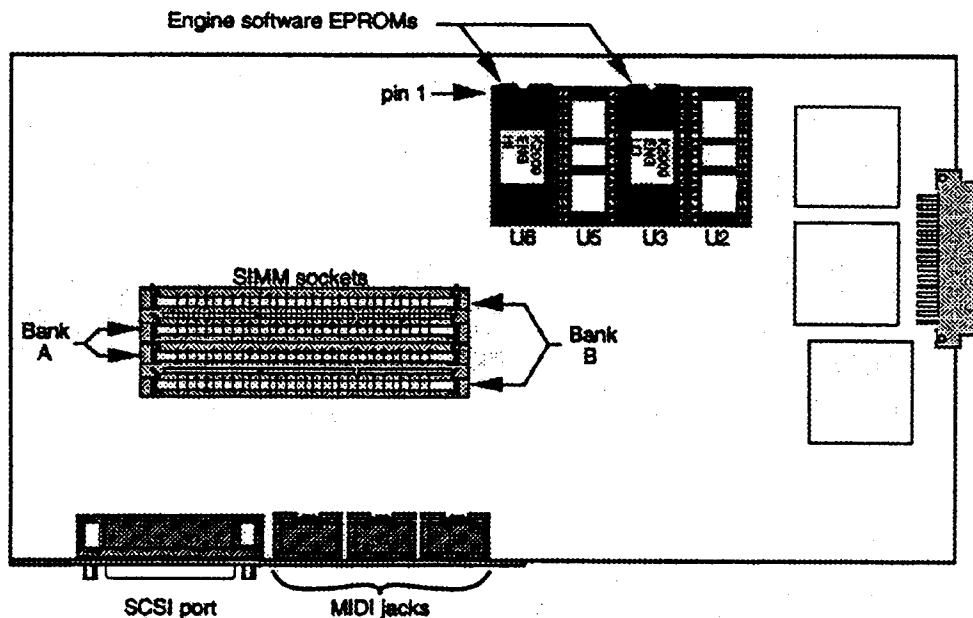

Figure 2.11 - Engine Board Chip Layout
- Locate the SIMM sockets on the Engine board (as per Figure 2.11 below). There are two banks of SIMM sockets, the two inner sockets are bank A, and the two outer sockets are bank B. When installing one bank (2 SIMMs), install the SIMMs in the bank A sockets. When installing two banks (4 SIMMs) of the different sizes, make sure that the 2 SIMMs in the bank A sockets are the same size, and the 2 in the bank B sockets are the same size.
Locate the old software ICs - U3 and U6 on the Engine board (Figure 2.11). Remove the old ICs using an IC puller or similar tool. Be careful not to damage the traces on the Engine board.